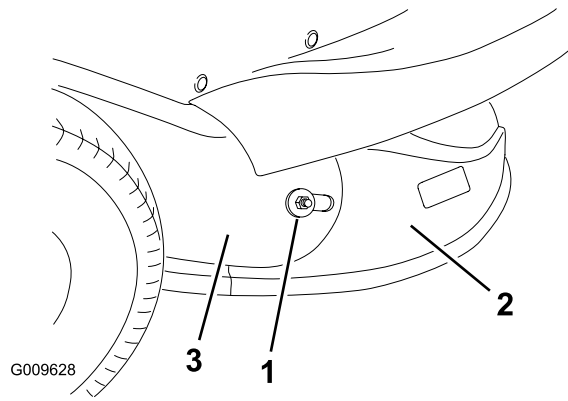

Figure 2
3. Slide the rear discharge chute behind the discharge tube (Figure 2).